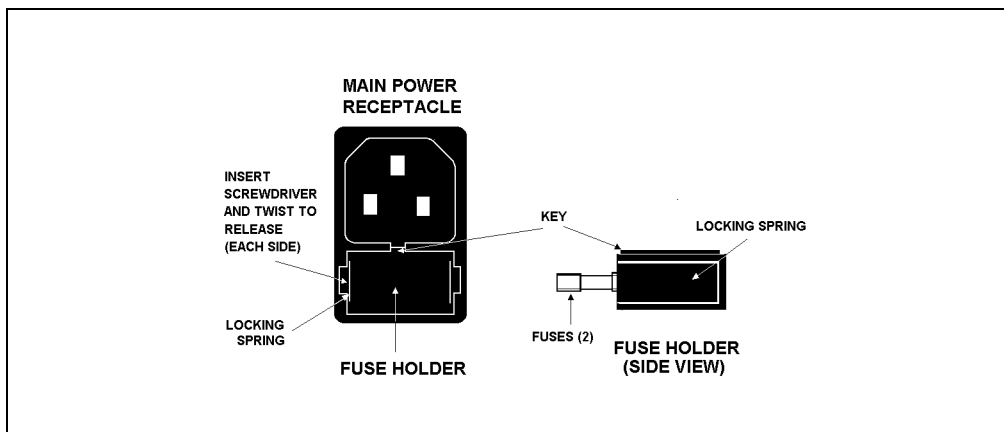

Figure 5-1. Main Power Fuse Holder
2. The fuse holder is part of the main power receptacle on the rear panel of the IC25A (see Figure 5-1). A recessed lock is located on each side of the fuse holder. Using a small screwdriver, push each lock toward the center to release it. The fuse holder pops out slightly when the locks release. When both locks are released, pull the fuse holder straight out of its compartment.